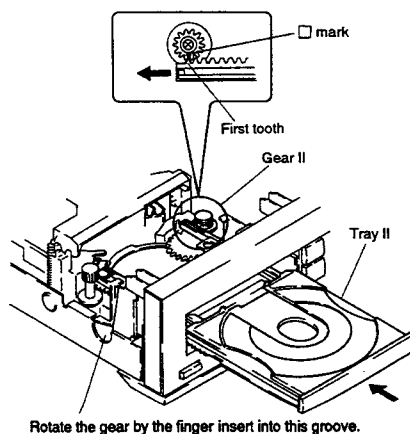

Fig. 2-15
- (1) Press the OPEN/CLOSE button to make the tray I is in clamp condition, and the tray II is in open condition.
**Note 1:** When opening the tray II manually, insert a finger into the groove shown in Fig. 2-15, and fully rotate the idler gear counterclockwise. (As for the idler gear, refer to Fig. 1-1)
- (2) As shown in Fig. 2-15, adjust the □ mark on the gear II to the first tooth of the tray II, then push in the tray II slowly.
- (1) Press the OPEN/CLOSE button to make the disc II is in clamp condition, and the tray I is in open condition.
**Note:** When opening the tray I manually, insert a finger into the groove shown in Fig. 2-15, and rotate the idler gear clockwise, and tray II is clamped.